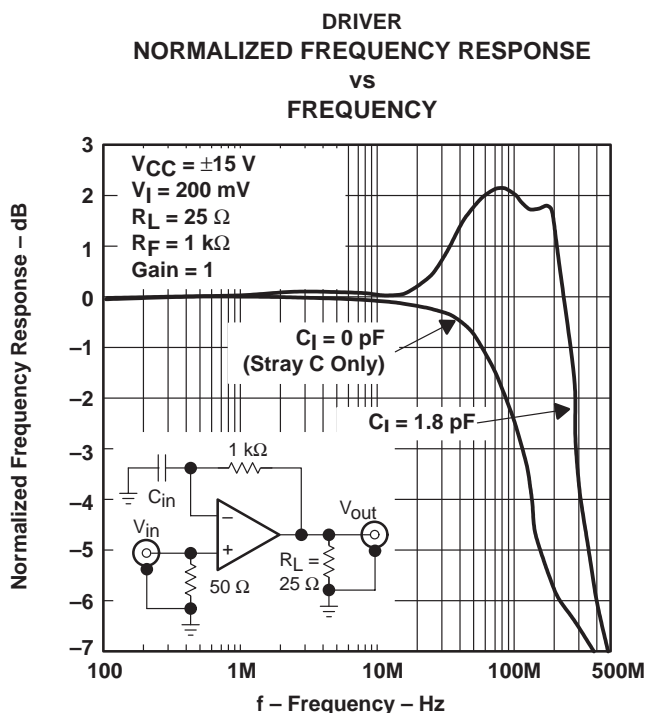

Figure 85. Driver Normalized Frequency Response vs Frequency
- **Input stray capacitance** – To minimize potential problems with amplifier oscillation, the capacitance at the inverting input of the amplifiers must be kept to a minimum. To do this, PCB trace runs to the inverting input must be as short as possible, the ground plane should be removed under any etch runs connected to the inverting input, and external components should be placed as close as possible to the inverting input. This is especially true in the noninverting configuration. An example of this can be seen in Figure 85, which shows what happens when 1.8 pF is added to the inverting input terminal in the noninverting configuration. The bandwidth increases dramatically at the expense of peaking. This is because some of the error current is flowing through the stray capacitor instead of the inverting node of the amplifier. Although, in the inverting mode, stray capacitance at the inverting input has little effect. This is because the inverting node is at a *virtual ground* and the voltage does not fluctuate nearly as much as in the noninverting configuration.